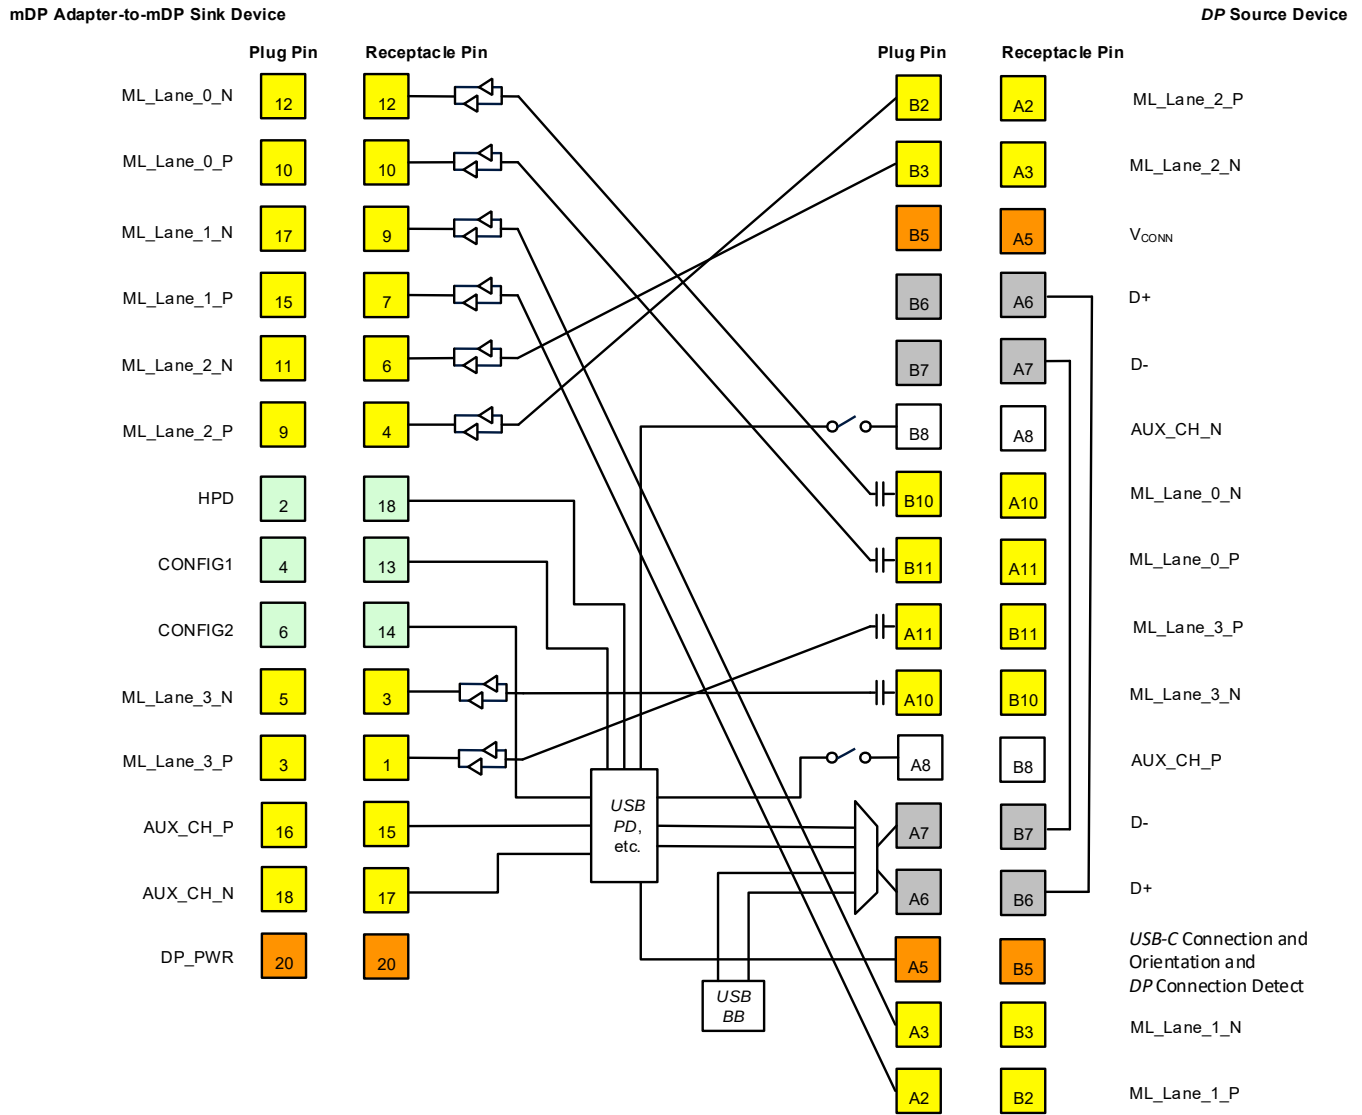

Figure 4-38: Scenario 5b mDP Adapter Wiring – Flipped Plug Orientation
- Figure 4-38 illustrates this use for an mDP receptacle when the *USB-C* plug is inserted in flipped orientation